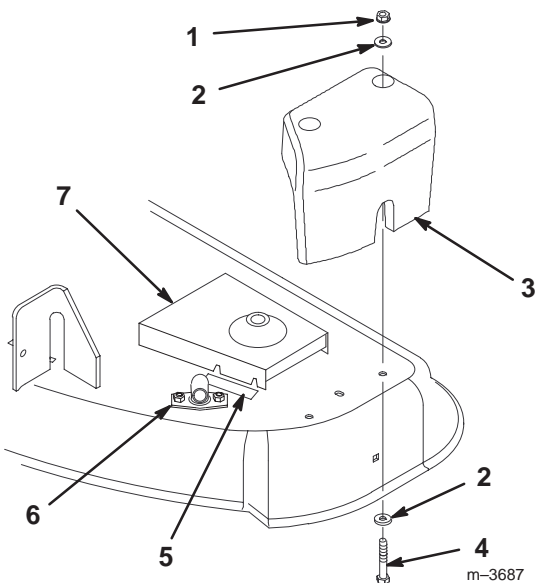

Figure 30
1. Position the mower counterweight on the left-hand side of the mower so that it fits snugly against the side of the mower (Fig. 30).